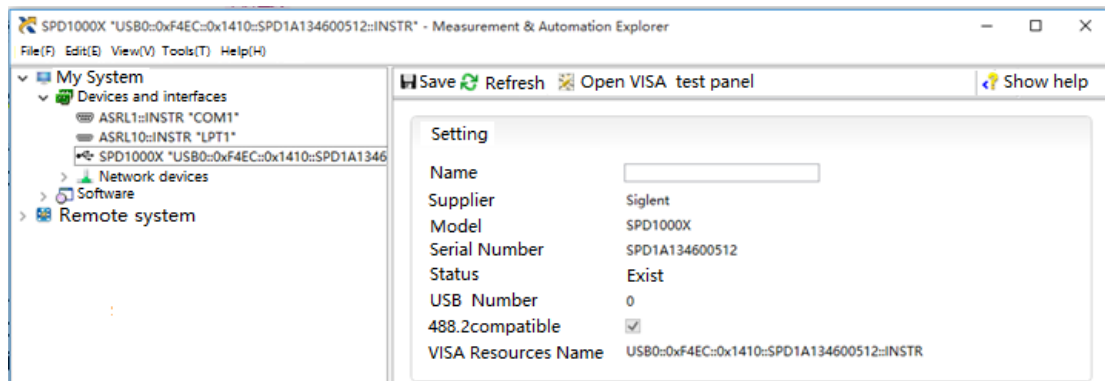

Figure 3-1
2. Click on the “device and interface” in the upper left corner, find the connected power supply information, click on the power supply device and click “Open VISA Test Panel”, then pop up the bullet box. As shown in Figure 3-1 below.